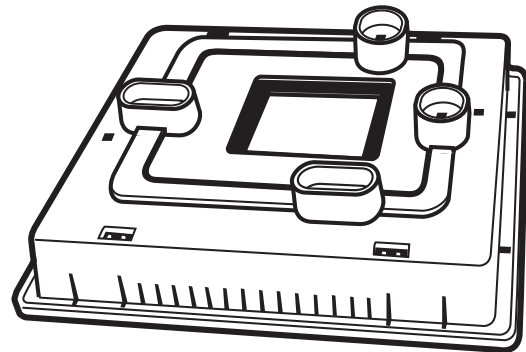

Fig. 9 — Standoff Installed on Equipment Control Module
15. Route wires through rear of equipment control module using either a clearance hole or supplied standoff. See Fig. 9. Standoff is provided as an aid when installing equipment control module on equipment or a solid wall.